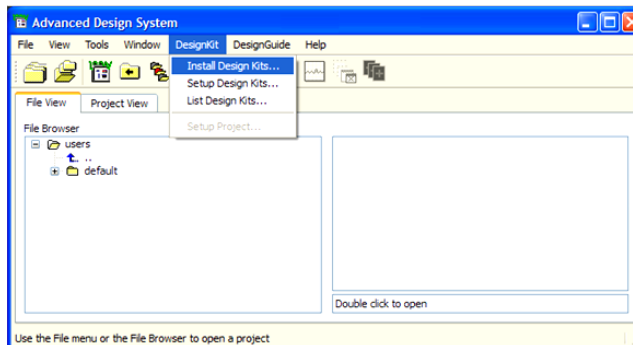

Figure 7. Setup Design Kit on Ads Main Window
After encoding the LNA to top level design which can be combined with the EVB simulation to receive the appropriate performance, we archive the encoded model for customers to use. For example, the SKY67151-396LF is archived as the SKY67151_2009.zip. This can be kept at the working directory of ADS 2009 or in any folder on the working C:\ drive. For convenience, we are using C:\users\default as the home directory for ADS. We will also provide an ADS archived project file to run the top level EVB simulation for convenience. We are using the SKY67151_BB_Sim.zip as the archived project for explanation. Please make sure that this compiled model runs only on PCs, so the design kit can only be used on a PC platform with ADS 2009. The procedure for setting up the model is very simple and takes a few steps which follow. Figures 7–10 will illustrate the steps.
- 1) Click on Design Kit on the ADS Main Window, and select Install Design Kits, Figure 7.